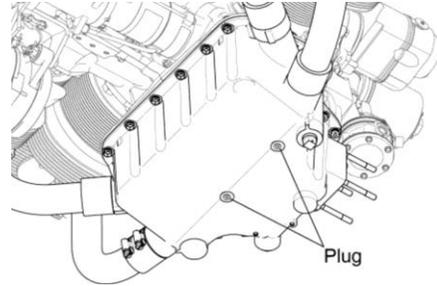

Figure 1
7. Remove one of the plugs in the induction system (Figure 1).